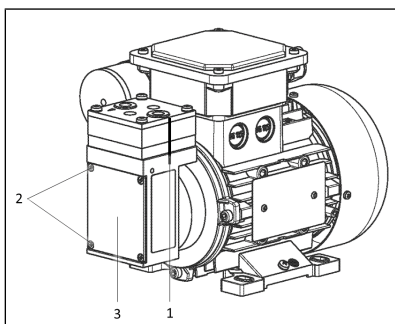

Fig.4 Marking with felt-tip pen
1. Mark the pressure plate, head plate, intermediate plate and housing with a felt-tip pen ( Fig. 4/1) to ensure proper mounting.
2. Remove the housing cover ( Fig. 4/3).
3. Loosen the four fastening screws ( Fig. 4/2) and remove the housing cover ( Fig. 4/3).